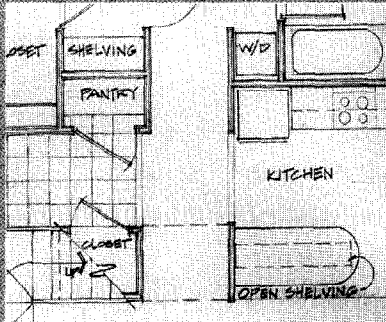

Figure 22 - Walk-in Pantry
- Consider a pantry with a door to reduce the number of finished cabinets and to increase useful access to stored kitchen items (see Figure 22).